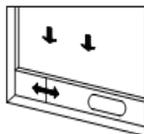
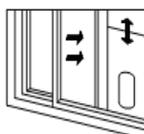

Fig. 2
Fig. 3
- 1) Half open the window, and mount the window sealing plate assembly to the window (as shown in Fig. 2 and Fig. 3). Components can be placed in horizontal and vertical direction.